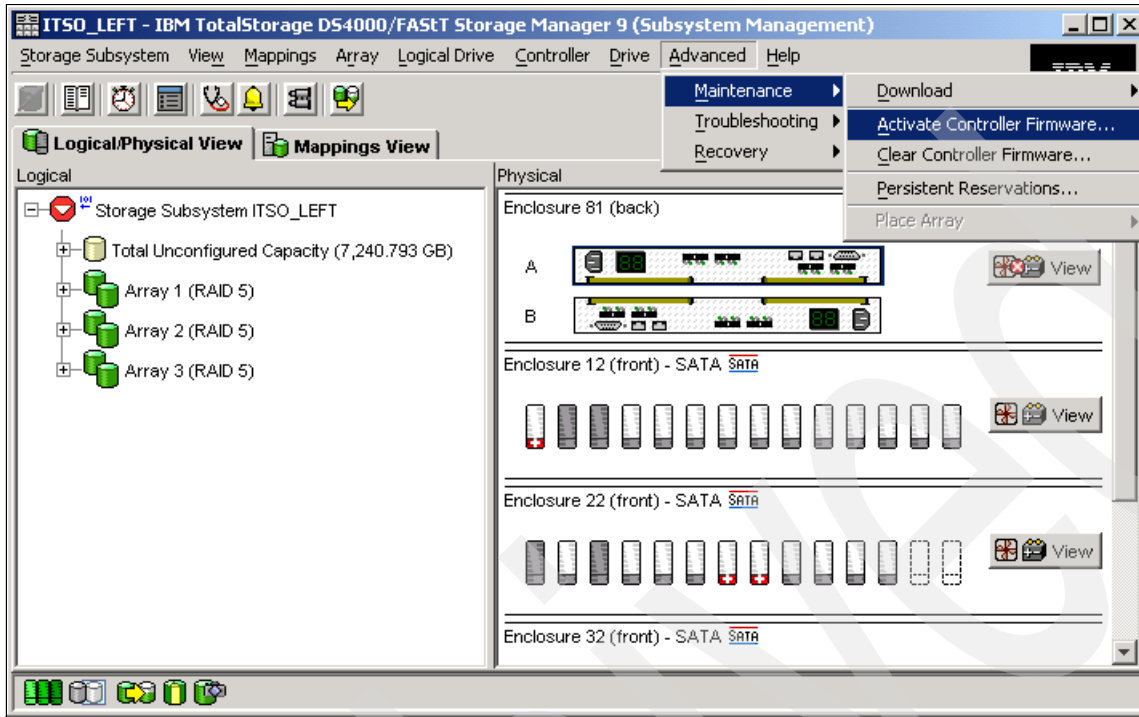

Figure 9-13 Subsystem Management window: Firmware activation
- To activate the new firmware, select **Advanced** → **Maintenance** → **Activate Controller Firmware**, as shown in Figure 9-13.